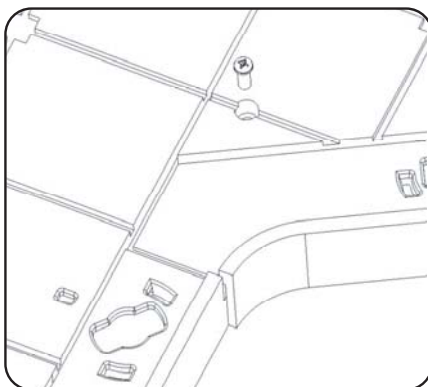

Figure 5
Attach the bay floor (part #44017 or 44037) to the 2 main floors and fasten together with five (5) 1/2 inch self-tapping screws (item 3) supplied. See figure 5.